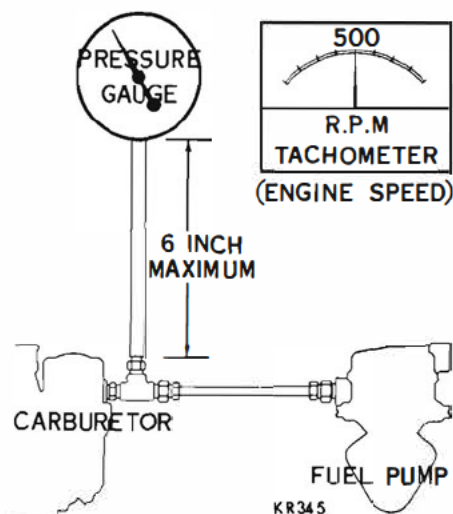

Fig. 4—Pressure Testing the Fuel Pump
(1) Insert a "T" fitting in the fuel line at the carburetor, as shown in (Fig. 4).
(2) Connect a 6 inch piece of hose between the "T" fitting and gauge Tool C-3411. (The hose should not exceed 6 inches. A longer hose may collect fuel and the additional weight of the fuel would be added to the pressure of the pump and result in an inaccurate reading).
(3) Vent the pump for a few seconds (this relieves the air trapped in the fuel chamber). If this is not done, the pump will not operate at full capacity and a low pressure reading will result.
(4) Connect a tachometer, then start the engine and run at 500 rpm. The reading should be from 3½ to 5 psi (or from 5 to 7 psi, depending on pump) and remain constant or return to zero, very, very slowly when the engine is stopped. An instant drop to zero indicates a leaky outlet valve. If the pressure is too low a weak diaphragm main spring, or improper assembly of the diaphragm may be the cause. If the pressure is too high, the main spring is too strong.